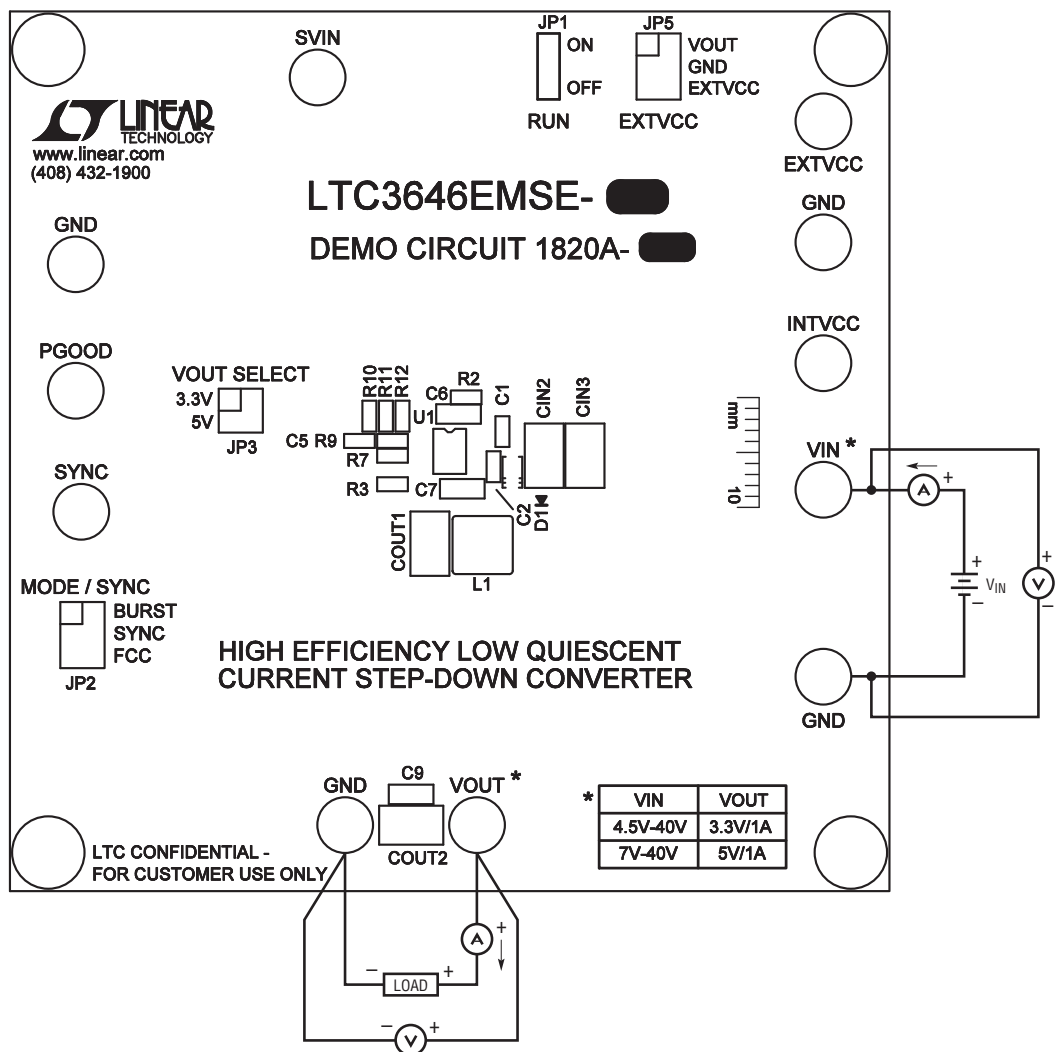

Figure 1. Proper Measurement Equipment Setup
Demonstration circuit 1820A is an easy way to evaluate the performance of the LTC3646/LTC3646-1. Please refer to Figure 1 for proper measurement equipment setup and follow the procedure below:
- With power off, connect the input power supply, load and meters as shown in Figure 1. Preset the load to 0A and V_{IN} supply to be 0V.